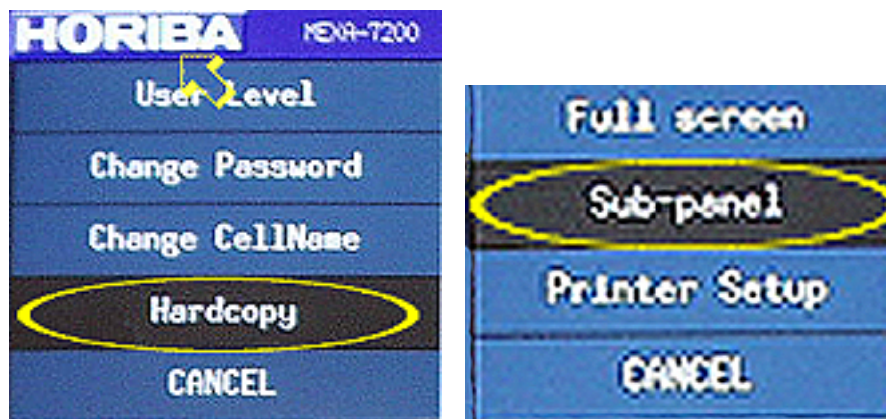

Figure 34
- 141 Click on the Horiba logo button. See the arrow in Figure 34.
From the menu items that appear below the button, click on “Hardcopy.” See the left-side circle in Figure 34 . Then select “Subpanel.” See the right-side circle in Figure 34.